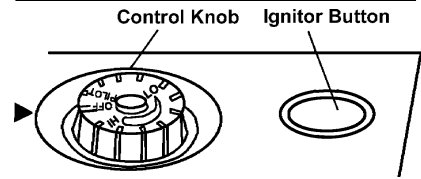

Figure 18 - Control Knob in The OFF Position
4. Wait five(5) minutes to clear out any gas. Then smell for gas, including near the floor. If you smell gas, STOP! Follow "B" in the safety information on the side of heater. If you don't smell gas, go to the next step.
5. Turn control knob counterclockwise ↻ to the PILOT position. Press in control knob for five(5) seconds. (see Figure18).